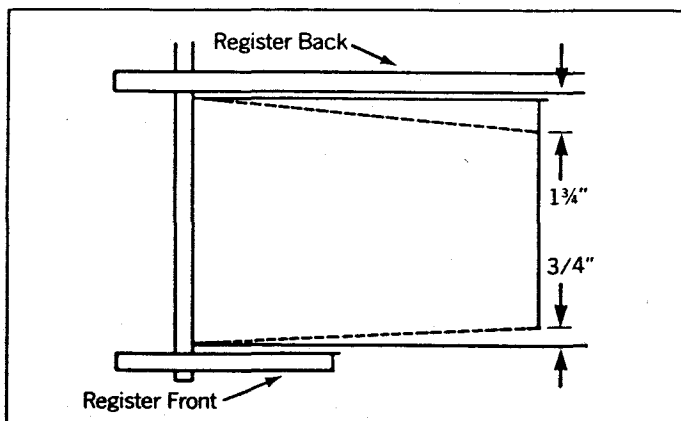

Figure 2 Typical register blade.
1. Trim register blade to clear front and/or back plate (Figure 2). Install thermocouples to set minimum cooling air.